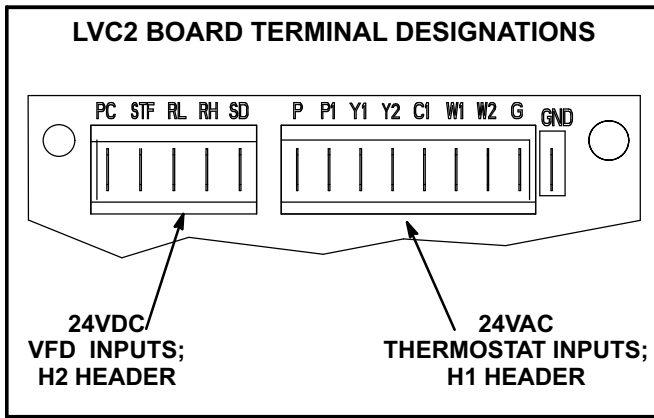

FIGURE 13
3. Check for 24VAC signal at the thermostat blower input (G to GND terminal). See figure 13.